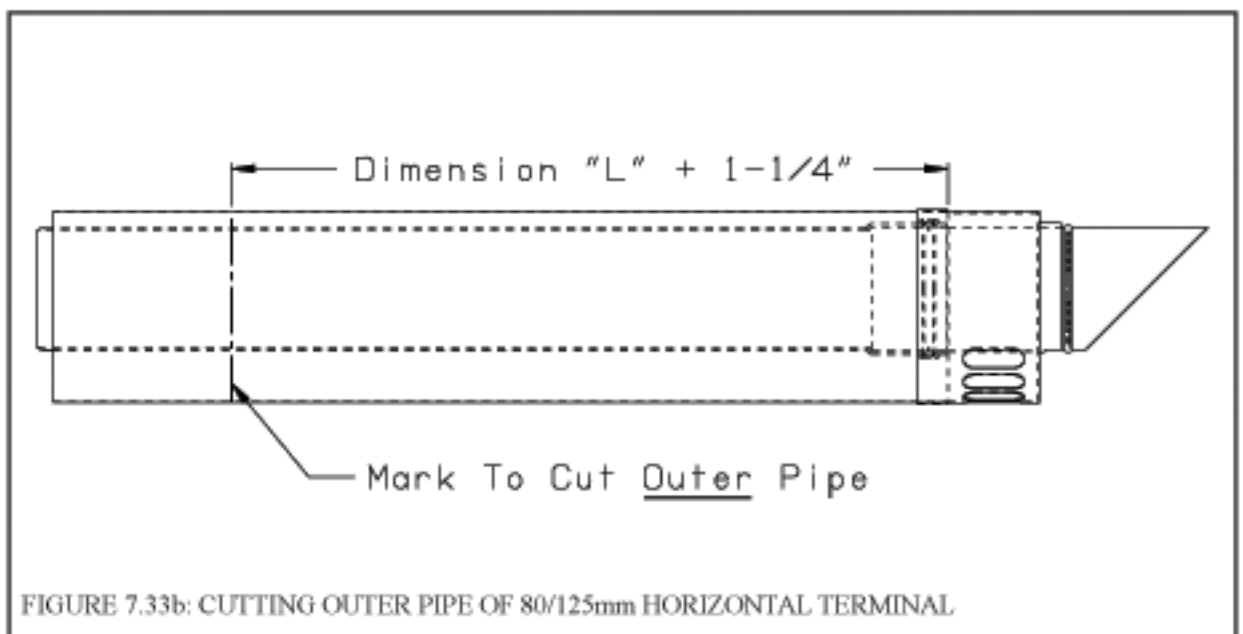

FIGURE 7.33b: CUTTING OUTER PIPE OF 80/125mm HORIZONTAL TERMINAL.
- c) Add 1-1/4" to distance "L". Carefully mark this length on the pipe as shown in Figure 7.33b.